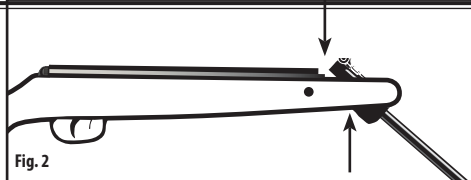

Fig. 2
PINCH POINTS (Fig. 2)
WARNING: BE CAREFUL TO KEEP FINGERS CLEAR OF THE PINCH POINTS. FIGURE 2 SHOWS THE PINCH POINTS TO BE AWARE OF.
7. Be careful not to pinch your hand or fingers in the hinge area of the air rifle (Fig. 2).